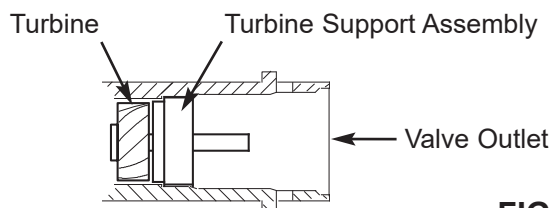

FIG. 11
- Be sure the turbine and support are in place in the valve outlet, as shown in Figure 11.